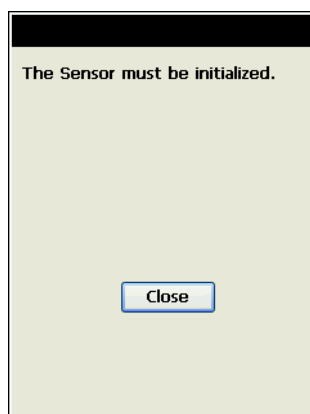

Figure A-7. Initialize Sensor after Resection
11. After the resection (Figure A-7), initialize the sensor. See “Sensor Initialization” on page 8-18 for details.